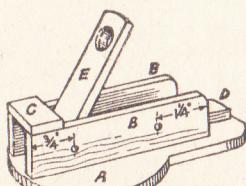
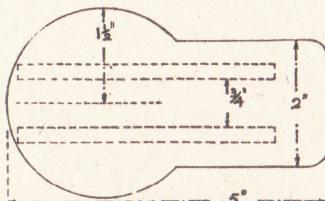

Fig. 2—The thrower
Fig. 3—Plan of the thrower
An admirable idea of this is got from the sketch, and from the view of the finished thing in Fig. 2. There is a base piece (A) of which a plan is given in Fig. 3, with all necessary measurements for drawing out the outline on the wood.
The dotted lines shown on the plan give the position of the side uprights (B), which measure 4ins. by 1in. On one of these sides must be carefully plotted the exact position of the two pivot-screw holes, and in Fig. 2 the measurements for these are given. First bore the holes in one side piece and then lay this on the second side in true position as a guide for running the holes through the second side. Glue the sides to the base in the positions given and then mark out and cut the small piece (C) which is intended to bind the two sides together and also to form a stop for the lever (E) when this is thrown upwards. The piece (C) measures $1\frac{1}{2}$ ins. by $\frac{7}{8}$ in.